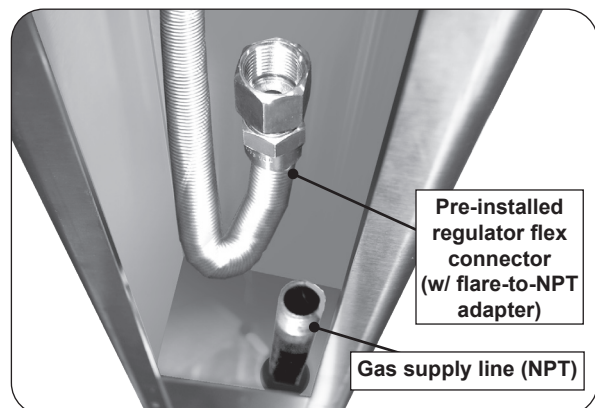

Fig. 16-2 Route gas supply (underground)
- The gas supply (NPT) stub must be routed from underground, to the planned grill location, and up through the hole found on the bottom of the post base (see Fig. 16-2).